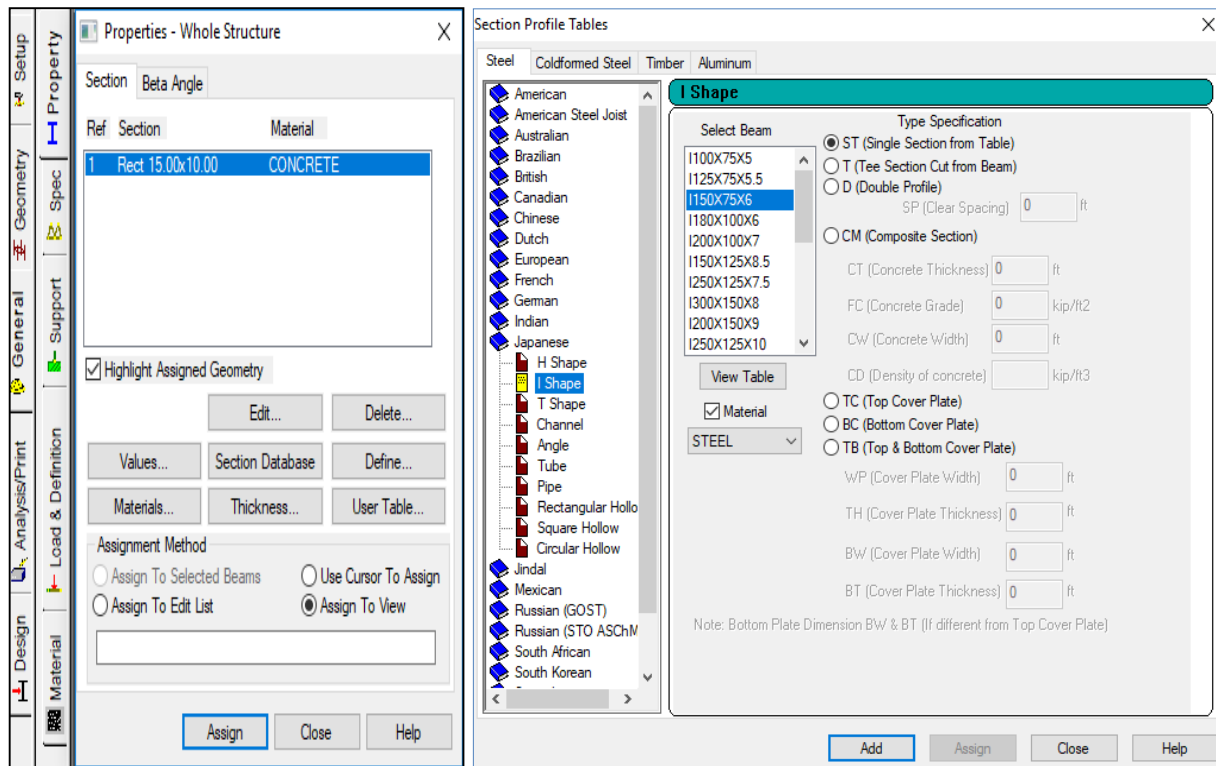

Fig: 4.23
2.1. Property → Section Database → Japanese → I Shape → I 150X75X6 → Material = STEEL → Add → Close then for Assign select the property and click on Assign to View → Assign → Yes. (Fig: 4.23)